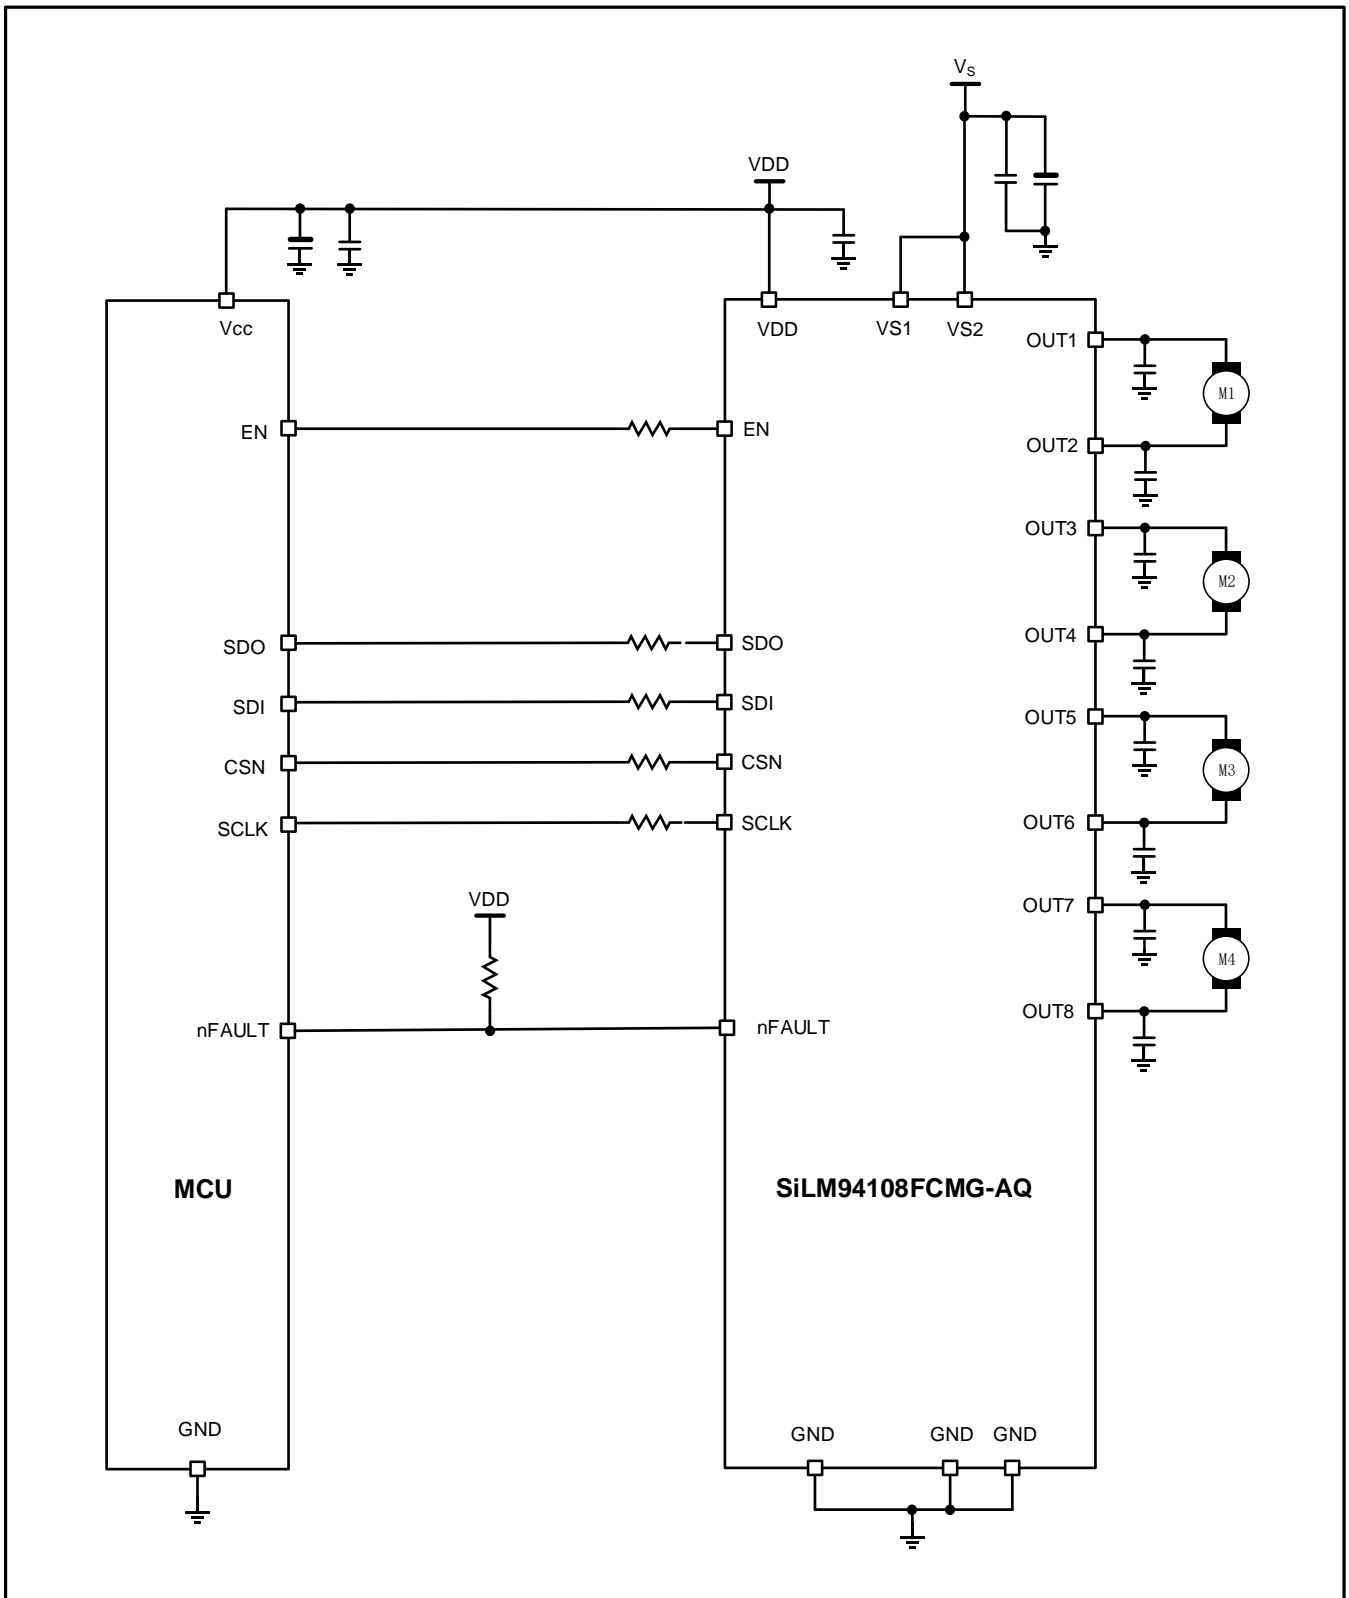
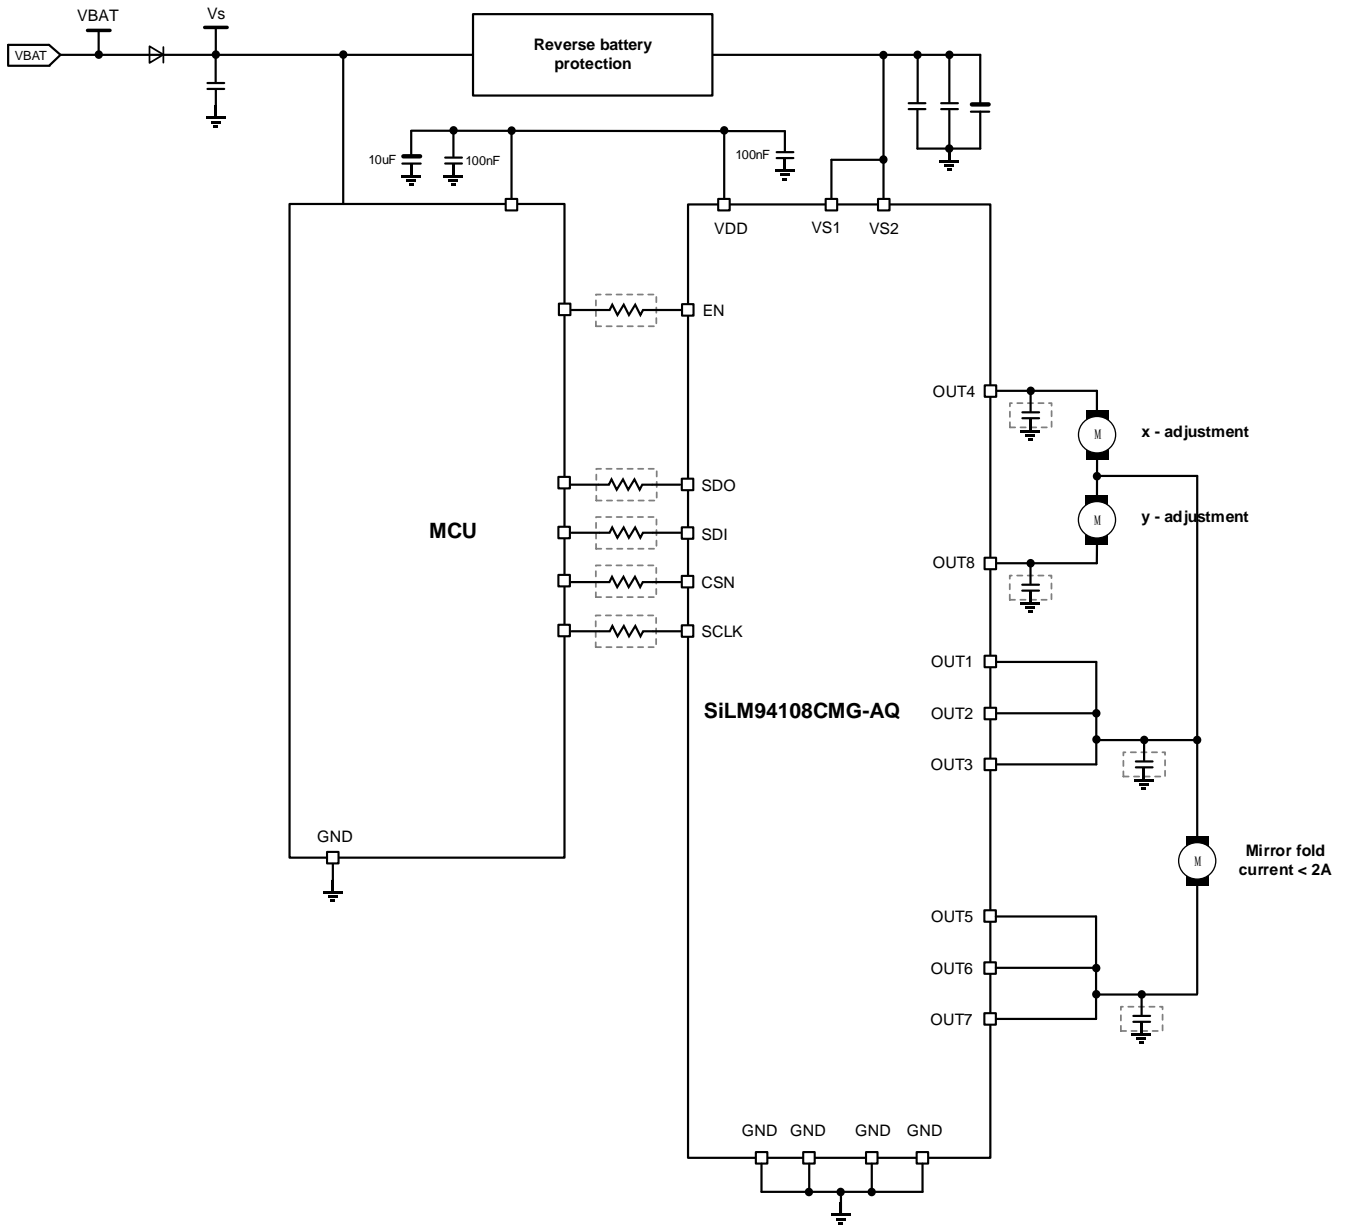

Figure 25. Application example for DC-motor loads(SiLM94108FCMG-AQ)
Figure 26. Application example for side mirror control(SiLM94108CMG-AQ)
- One 16-bit SPI command consists of two bytes (see Figure 25 and Figure 26), i.e.